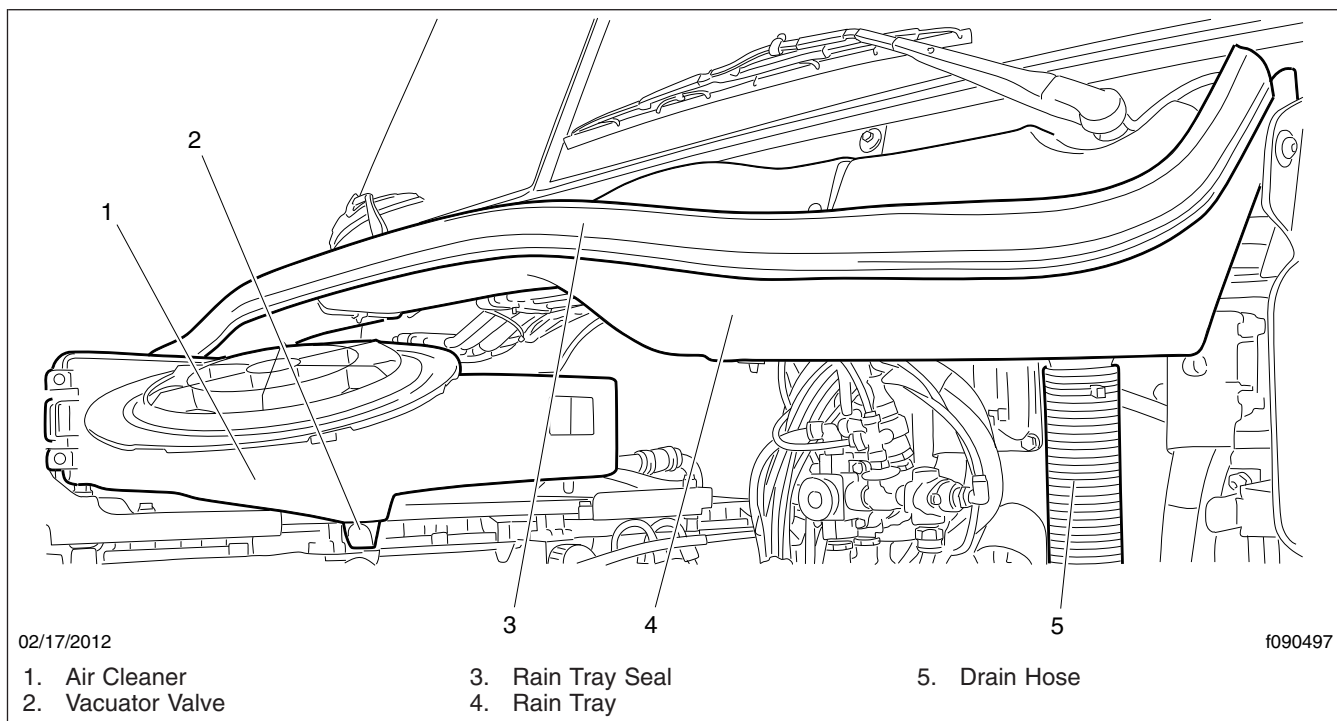

Fig. 20.8, Rain Tray Assembly
- 3.1 Inspect the vacuator valve(s) installed on the hood interior and air cleaner. Make sure the lips of each valve are undamaged and pliable, free of debris, and remain closed during inspection. See **Fig. 20.8** and **Fig. 20.9**.